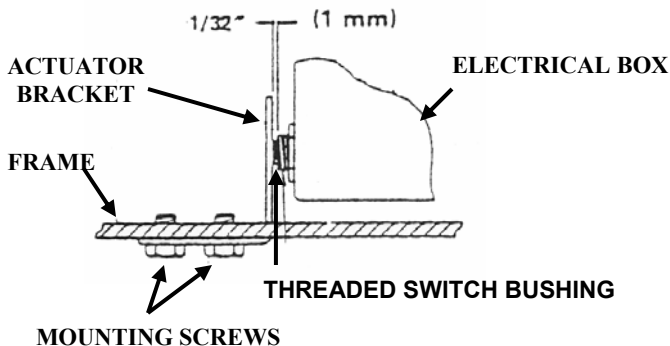

Figure 3
12. To adjust actuator bracket, loosen mounting screws and move bracket until 1/32" (1 mm) clearance is attained as shown in Figure 3 below. Re-tighten mounting screws when bracket is in position.